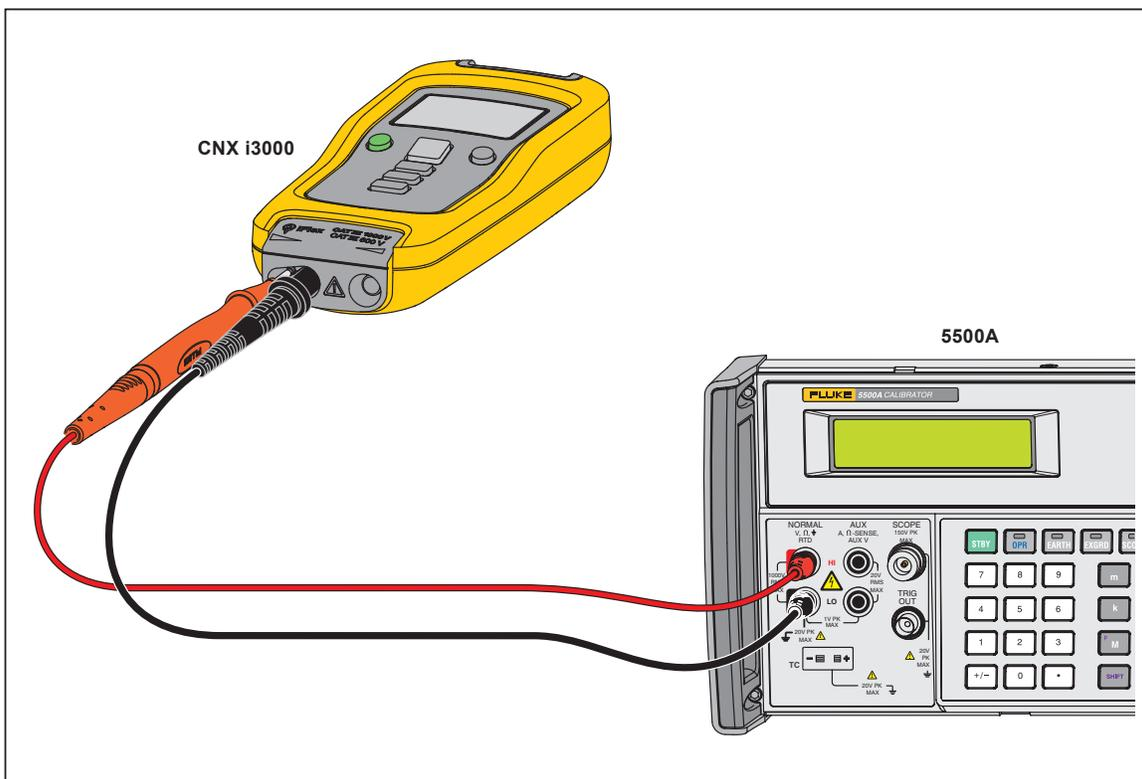

Figure 2. Performance Test Connections for Simulated Voltages
For some steps, voltage is used to simulate current and different connections are necessary. See Figures 2 and 3.
*While the calibration adjustment points are shown in Table 4, the Product also can show the necessary inputs. For each step, push **LOG** to see the necessary ac reference signal amplitude and then push **INRUSH** to see the necessary frequency input. For this calibration adjustment, volts are used in place of current. Use the connections shown in Figure 2.*